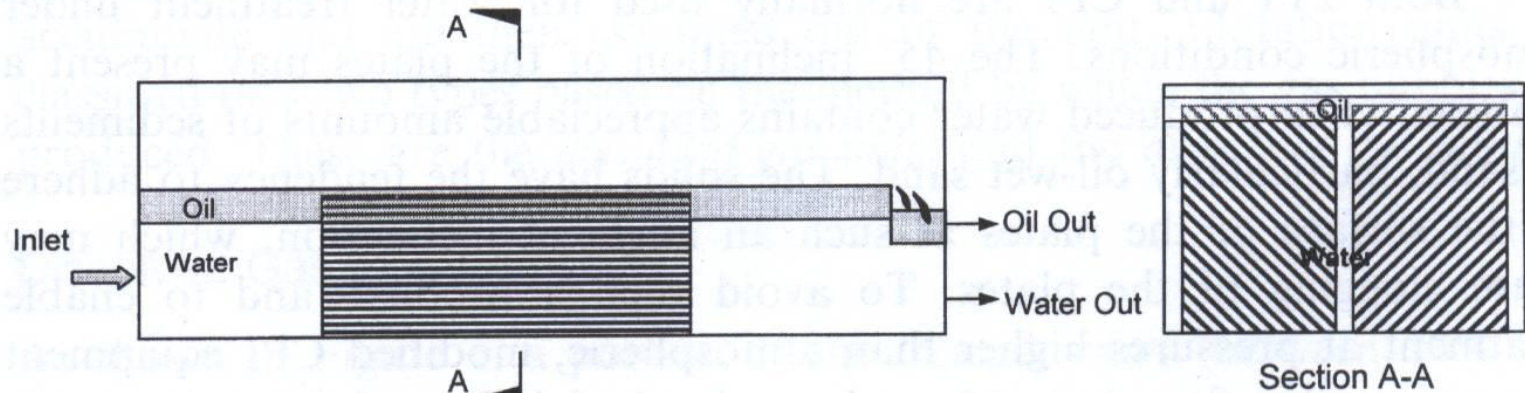

Figure 3 The parallel plate interceptor.
- Parallel plate interceptors (PPI) (Fig. 3, 4)